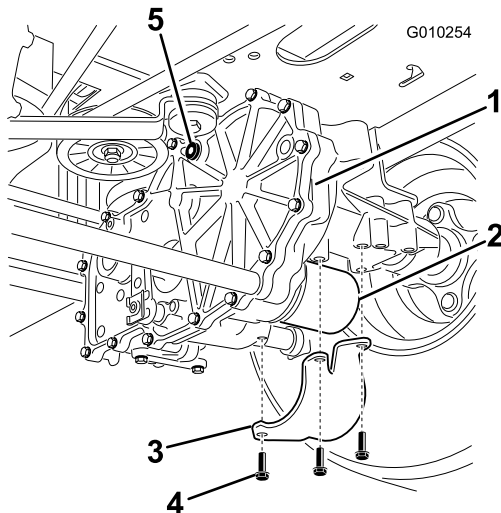

Figure 59
2. Locate the filter and guards on each transaxle drive system (Figure 59). Remove three screws securing the filter guard and guard.